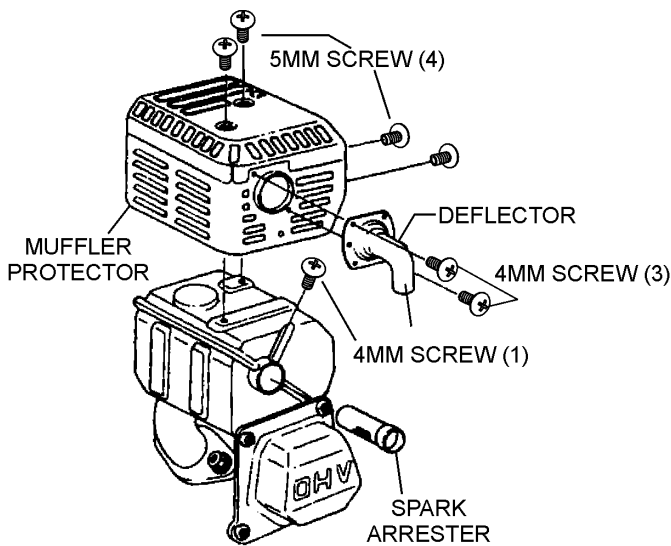

Figure 22. Spark Arrester Removal
1. Remove the 4 mm screw (3) from the exhaust deflector, then remove the deflector. See Figure 22.
2. Remove the 5 mm screw (4) from the muffler protector, then remove the muffler protector.